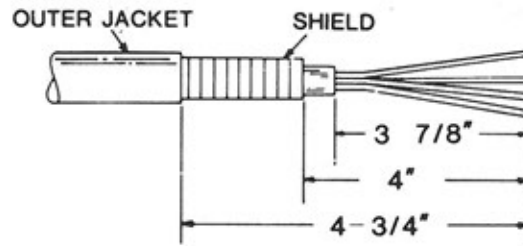

Fig. 4
**3.03** Prepare the service wires in the following manner. First strip  $4\frac{3}{4}$ " of outer sheath. Then strip 4" of shield and  $3\frac{7}{8}$ " of inner sheath, leaving  $\frac{3}{4}$ " of shield and  $\frac{1}{8}$ " of sheath extending beyond shield. See Fig. 4.